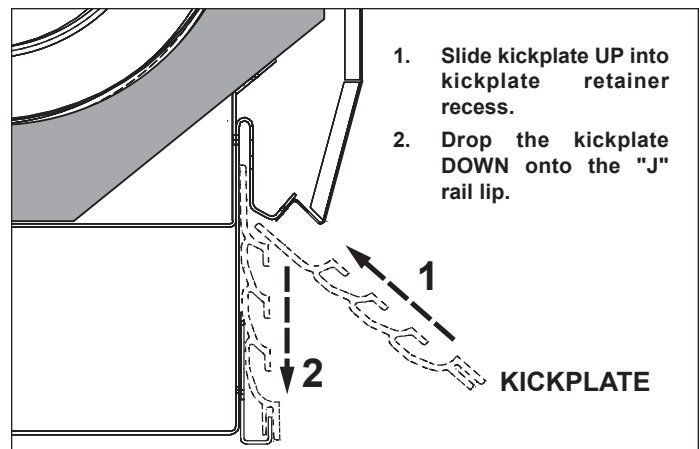

Fig. 10 Kickplate installation
12. Insert top of kickplate into the kickplate retainer. Slide the kickplate up into the retainer, then down onto the "J" rail (Fig. 10). Be certain that the bottom of the kickplate is fitted over extruding "lip" of the "J" rail.